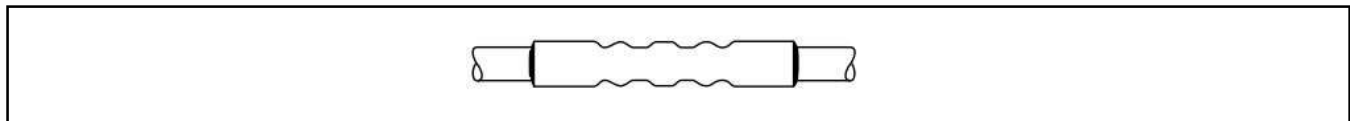

Figure 17 - Butt Splice Appearance after Being Heat
2.1.7. Heat splices with the heat gun until their tubing recovers and adhesive flows (see Figure 17).